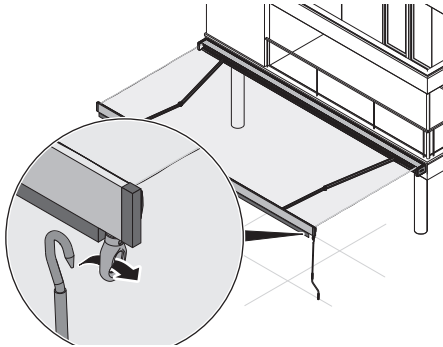

Fig. 22: Insert the manual crank
1. Insert the manual crank in the crank slot for the valance (fig. 22).